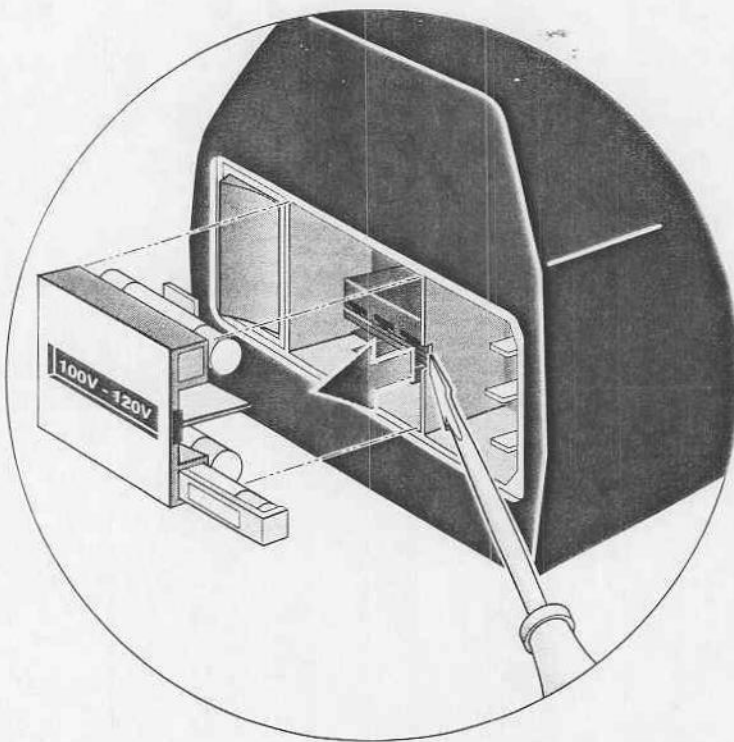

Figure 6-15. Removing the fuse carrier.
- 5 Using a small, flat-blade screwdriver, carefully pry the fuse from the spring clip as shown in Figure 6-15.
- 3 Using your fingers, pinch the fuse carrier clips together and lift out the carrier (Figure 6-15).